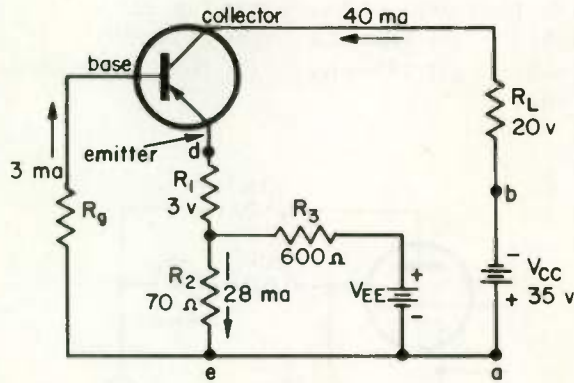

Fig. 52
- (1) To the right.
- (2) To the left.
- (3) Can't be determined from information given.
42. What is the voltage of the battery V_{EE} in Fig. 52?
43. What is the voltage between collector and emitter in Fig. 52?